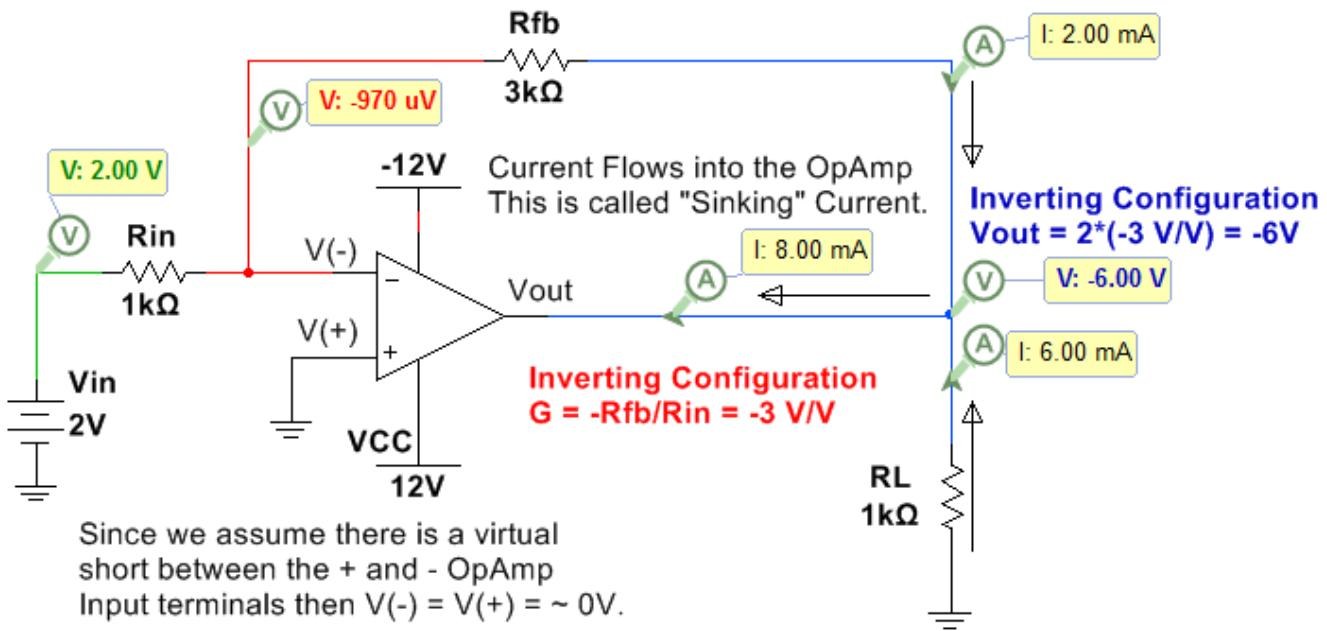

Figure 7.13: Inverting Configuration with a DC input.
- **Inverting Configuration:** If the input voltage is connected to the in input resistance ( $R_{in}$ ) that is connected to the inverting (-) terminal of the OpAmp it is called the “inverting configuration”. An example with a DC input is shown in Figure 7.13 and an example with an AC signal is shown in Figure 7.14. The closed loop gain equations for an inverting OpAmp are shown in 7.2 and 7.3.
The inverting OpAmp configuration is shown in Figure 7.13 (DC input) and Figure 7.14 (AC input).
In the circuit below the instantaneous voltage values (top numbers) are also shown so you can see that at that moment in time the circuit behaves exactly like the DC circuit in Figure 7.13 ( $Vout = -.994V \cdot (-3 V/V) = 2.98 V$ ).